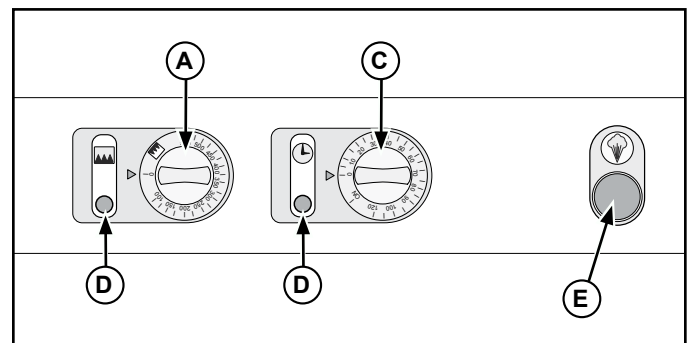

Figure 2. 40702 Controls.
- Press the mist control  button (E) to activate a spray of water into the cooking chamber. See Figure 2. Do not press the button longer than 2-second pulses.